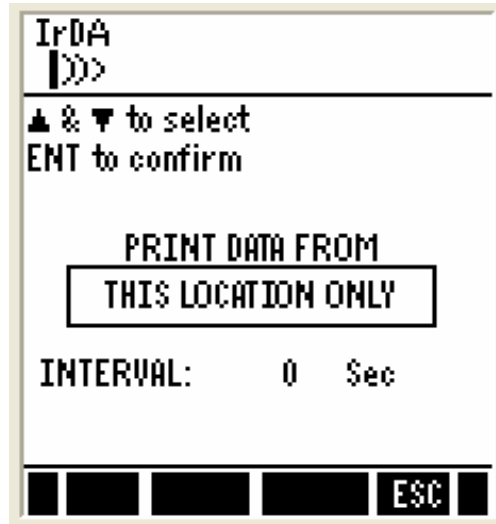

Figure 25 : Selecting options for printing memory locations
3. Press **PRIN (F2)**. The screen appears for you to select printing options (Figure 25). This allows you to choose either all memory locations or the current memory location for transfer.